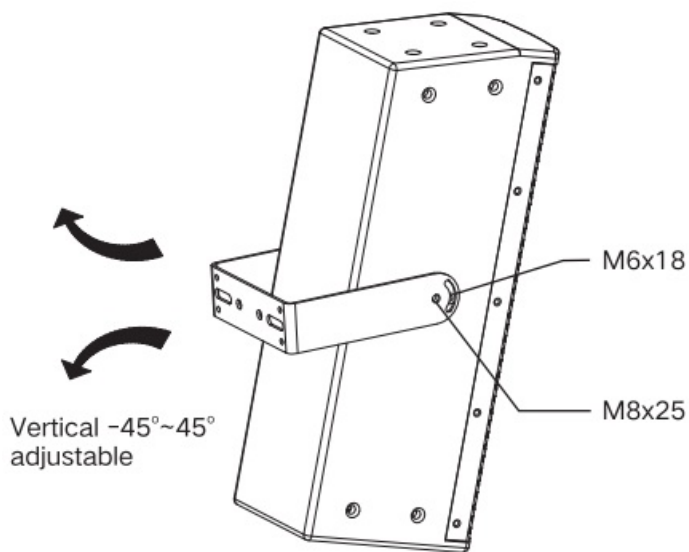

Fig. 1
STEP 1: Remove the M6 and M8 locating inserts from the cabinet as shown in Fig. 1